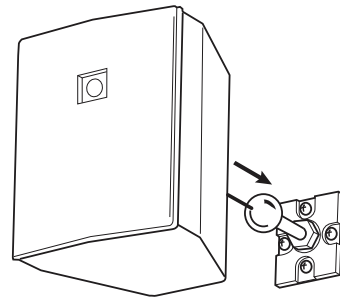

Fig. 5
5. Mount the speaker on the InvisiBall as shown in Fig. 5.